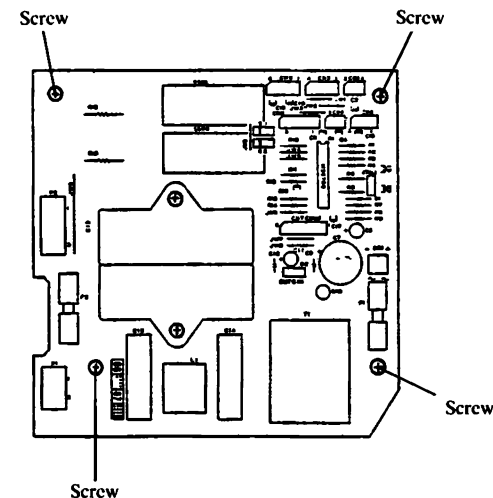

Fig. 30
- (1) Disconnect all connectors on the Main P.C.B..
- (2) Remove the four screws (Round head 3×8), the Main P.C.B. will come off. (Refer to Fig. 30)